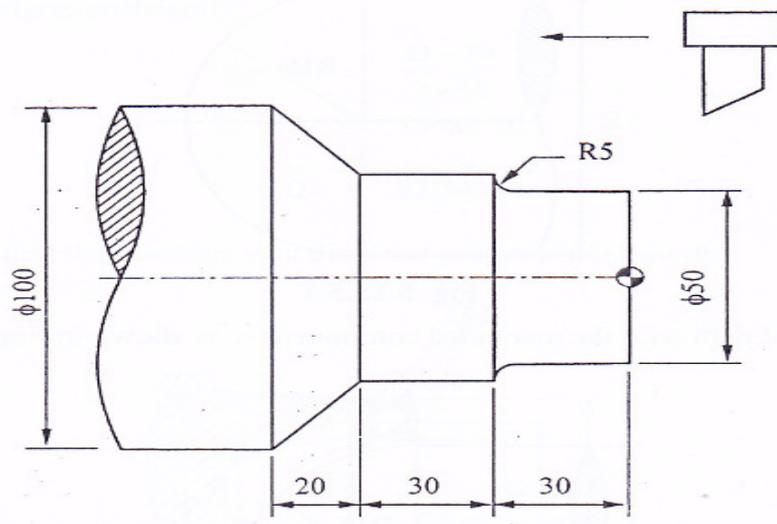

Fig. 1
- (b) Write a complete a part program for machining the forged component as shown in fig. 1 **07**